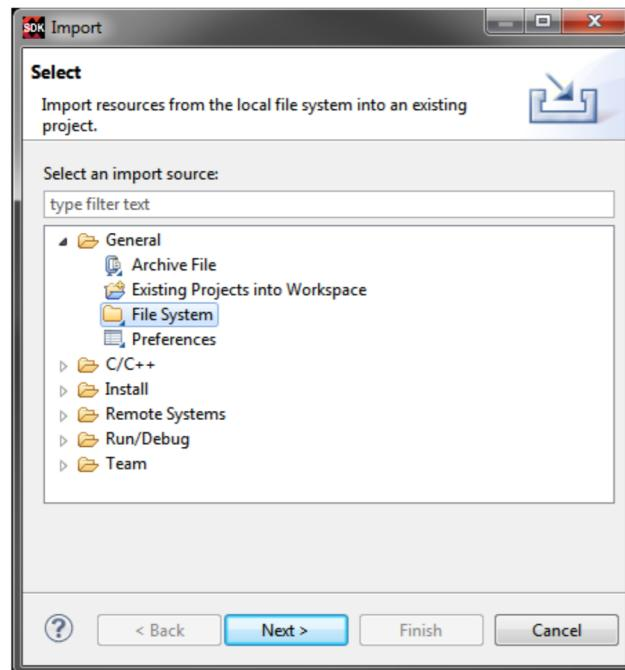

Figure 1.30: Import File System
- (e) The *Import* window will open. Expand the **General** option and highlight **File System**, as in Figure 1.30, and click **Next**.